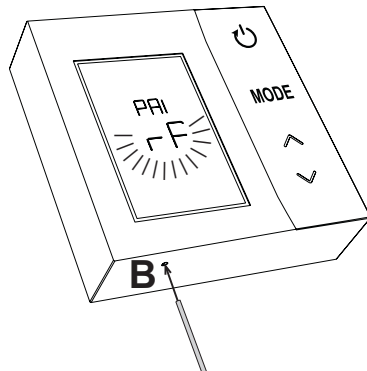

fig. 23
14. Press the button **B** on the thermostat for 1 - 2 seconds using a pointed object ("fig. 23").